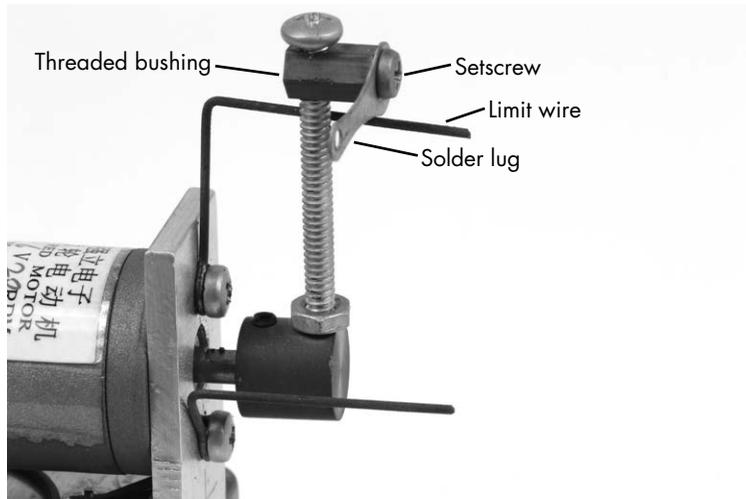

Figure 2-18: A photograph detailing the head of the crank. Note the solder lug used to hold the wire and the alligator stop clip on the left side.
2. In the bushing, perpendicular to the motor shaft hole, use a #36 drill to drill a hole. Then, tap the hole you drilled so a long 6-32 screw can serve double duty as a setscrew and crank. You can also use a separate setscrew to move the crank farther from the motor, as I did in Figure 2-18.
3. Thread the crank screw into the bushing so it bears tightly against the motor shaft, and use a locking nut to hold the screw in place (see Figure 2-18).
5. Take an M3×0.5 mm machine screw and put it through the solder lug (see Figure 2-19 for the lug itself and Figure 2-18 for the lug in place). Screw it into the standoff all the way so it binds on the crank screw.